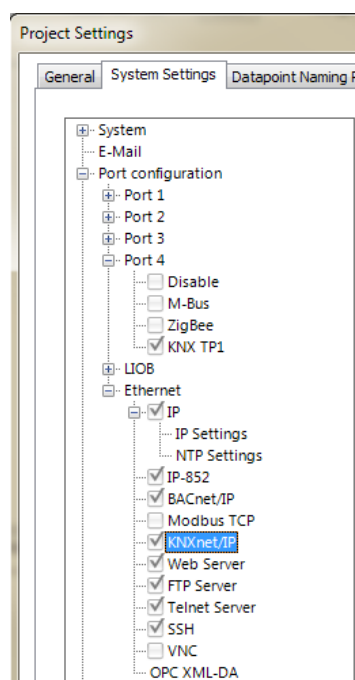

Figure 142: Enabling KNX/TP1 and KNXnet/IP in the Project Settings Dialog.
2. In the **System Settings** tab enable the KNX for Port 4 and/or for the Ethernet port, as shown in Figure 142.